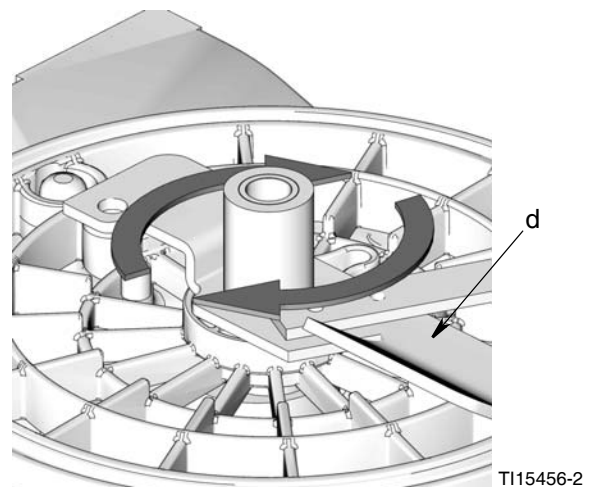

FIG. 5
6. **For all installations**, turn paddle (d) **clockwise** to loosen and remove it from G3 base (FIG. 5).